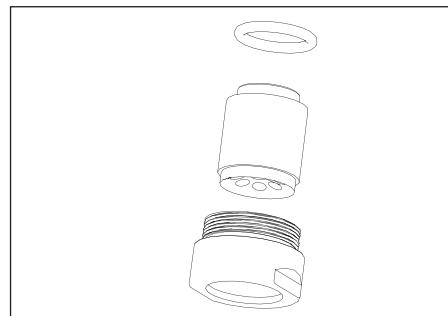

Fig. 5.2 Nut + aerator + rubber sealing ring
*Around the aerator you will see a rubber ring. If it does not come off with the aerator, this ring must be carefully removed from the tap spout using a non-sharp object (see fig. 5.2).*
Check that the rubber sealing ring is not damaged\* (see fig 5.2). Replace\* or clean the plastic aerator in accordance with the instructions using a descaler. Install it all; do not tighten the nut too much because the thread can be damaged.